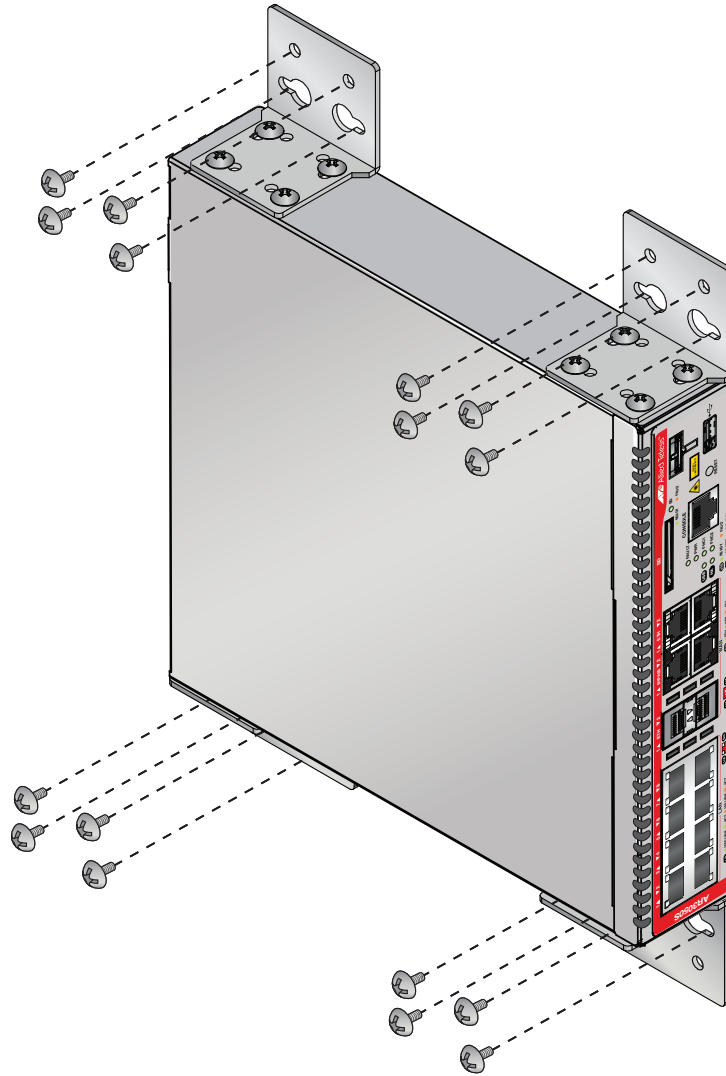

Figure 12. Securing the router to the wall
6. While another person holds the router at the wall location, secure it to the wall using the 16 wall mounting screws. See Figure 12.